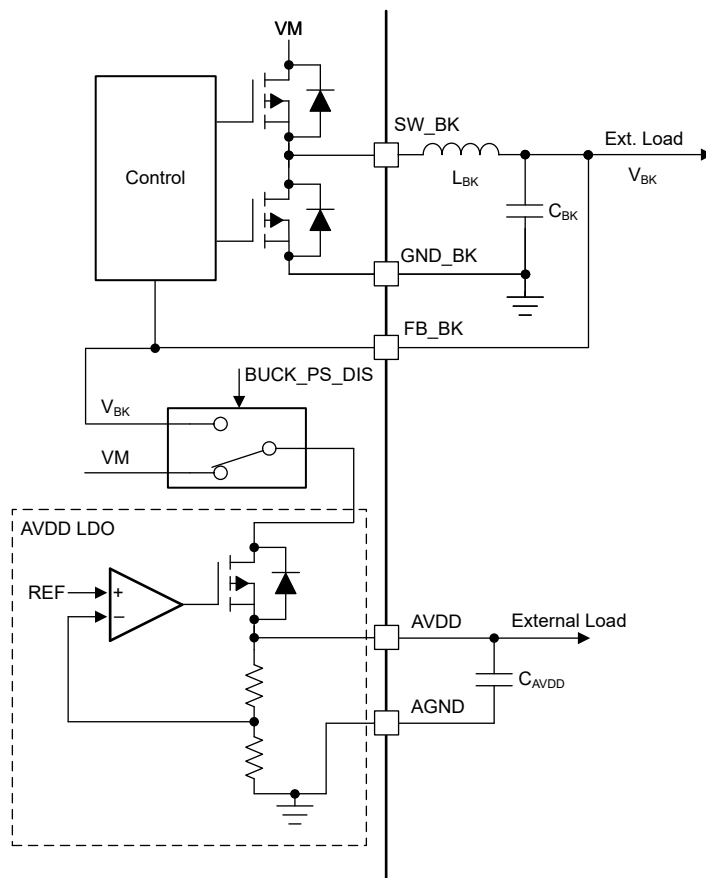

图 7-5. AVDD Power Sequencing from Mixed Mode Buck Regulator
The AVDD LDO has an option of using the power supply from mixed mode buck regulator to reduce the device power dissipation. The power sequencing mode allows on-the-fly changeover of AVDD LDO input from DC mains (VM) to buck output (V_{BK}) as shown in 图 7-5. This sequencing can be configured through the BUCK_PS_DIS bit. Power sequencing is supported only when buck output voltage is set to 5-V or 5.7-V.